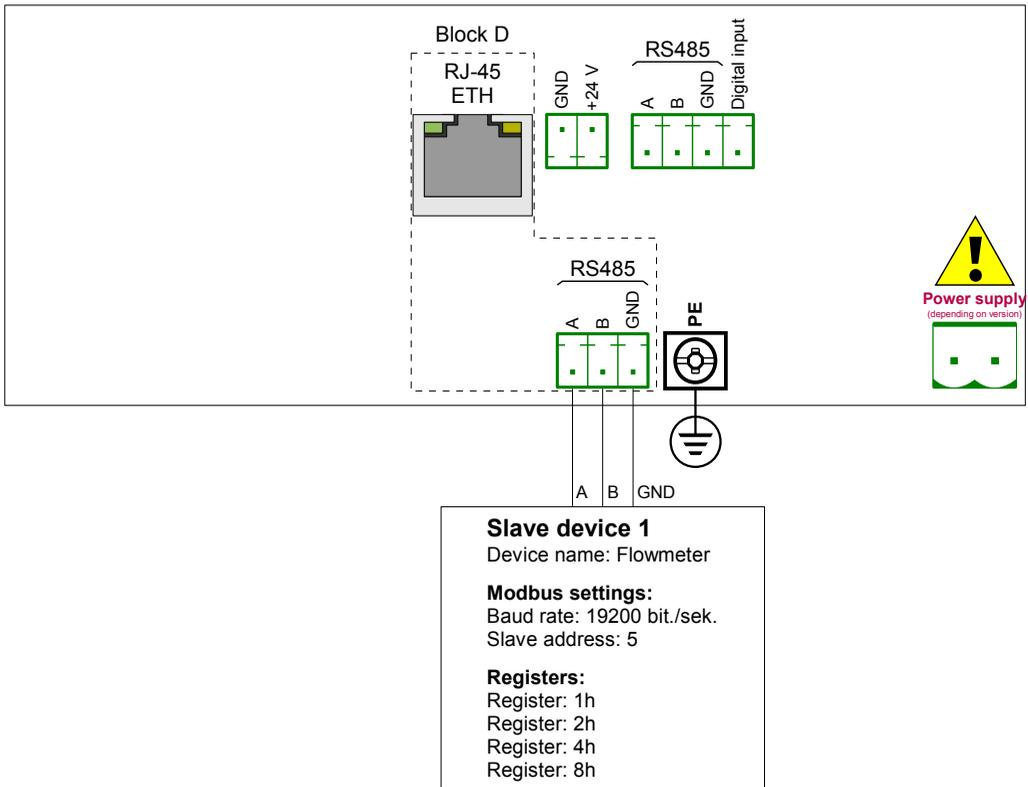

Fig. 7.151. Connection diagram for the Modbus MB2 port
First we need to configure the device according to the following recommendations, then connect the device in according with **Fig. 7.151**.
- using the arrows in the upper right corner choose **Port number: 1 (MB1)** in accordance with **Fig. 7.151**),